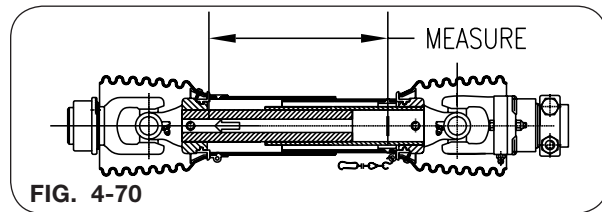

FIG. 4-70
7. Measure the length “L” from the same points as used in step 1. **This distance must be at least 1.5 inches greater than the distance measured in step 1.** If necessary, adjust the length of the PTO shaft by cutting the inner and outer plastic guard tubes and inner and outer sliding profiles by the same length. Round off all sharp edges and remove burrs before greasing and reassembling shaft halves. (Fig. 4-70)
8. Remove cylinder pin (272587) and snap rings (91192) from the base end of the cylinder at the lug on top of the tongue. (FIG. 4-70)